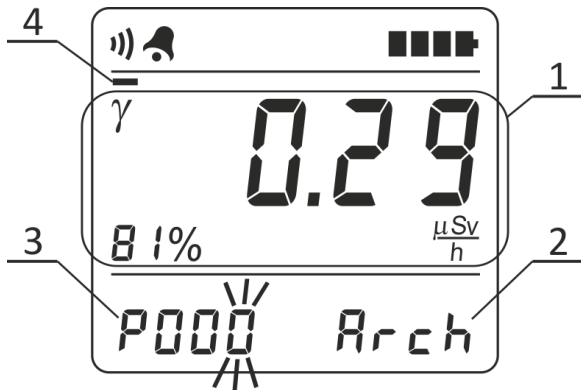

Figure 11 – LCD of the radiometer
The “Arch” symbols (2) on the LCD of the radiometer are an indication of the submode of measurement result saving (Figure 11). In this submode the LCD displays the measurement result (1) and the measurement object number (3) that will be saved in the nonvolatile memory. The nonvolatile memory status is displayed on the instantaneous value indicator (4). If the nonvolatile memory contains no data, only the first segment is highlighted on the indicator. If the memory is full, all segments are highlighted.